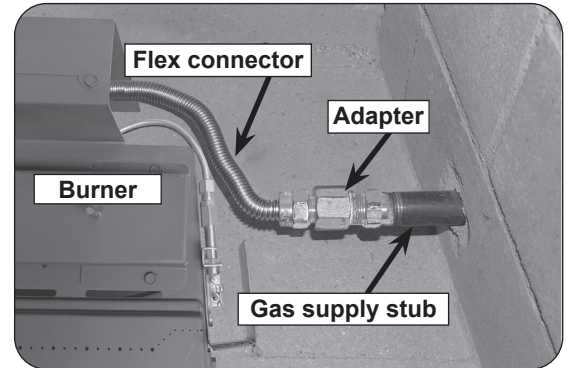

Fig. 17-1 Connect gas supply
2. Locate the gas-supply stub inside the fireplace and remove the cap, if attached (reference Fig. 17-1).
4. Be sure gas to the fireplace is off. Remove the adapter connected to the flex connector (pre-installed on the burner system). Attach the adapter to the gas-supply stub using a pipe compound resistant to all gasses. Tighten securely. Then attach the open end of the flex connector to the adapter. Tighten securely. (See Fig. 17-1.)